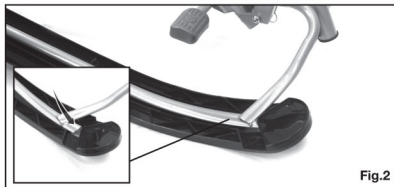

Fig.2
1. Assemble the Side ski④ by inserting the protruding steel tongue at the front of the Main frame③ through the square hole at the top of the ski. (see Fig. 2)